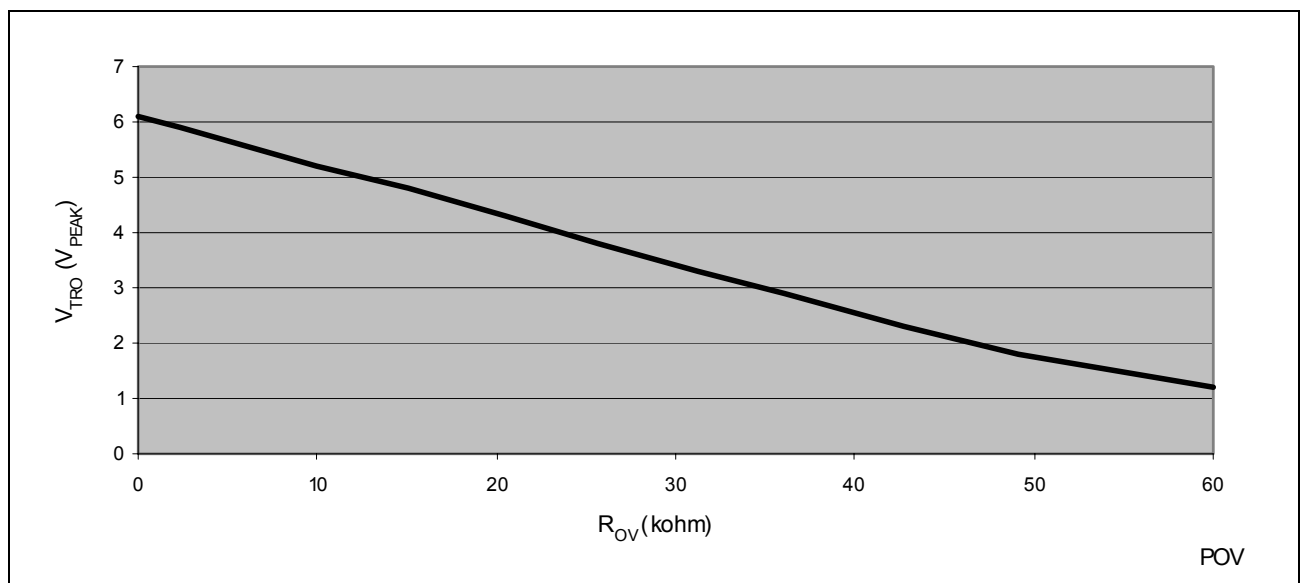

Figure 13 Programmable Overhead Voltage (POV). $R_{\text{L}} = 600 \Omega$ or Infinite
With the POV function the overhead voltage can be increased. If the POV pin is left open the overhead voltage is internally set to $1.1 V_{\text{Peak}}$. The overhead voltage is equal in on-hook and off-hook. If a resistor R_{OV} is connected between the POV pin and AGND, the overhead voltage can be set to higher values, typical values can be seen in Figure 13. The R_{OV} and corresponding V_{TRO} (signal headroom) are typical values for THD < 1% and the signal frequency 1000 Hz.
2. In Figure 13 the corresponding R_{OV} for the decided V_{TRO} can be found.